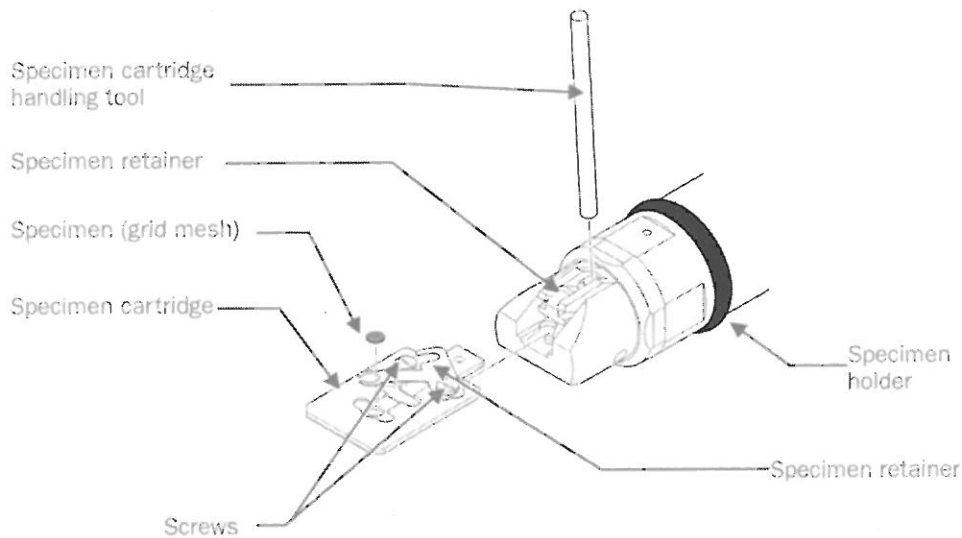

Fig. 5.5 Removing the specimen cartridge
1. Insert the cartridge removal tool to the cartridge-fixing bracket on the tip of the specimen holder and remove the cartridge (Fig. 5.5).